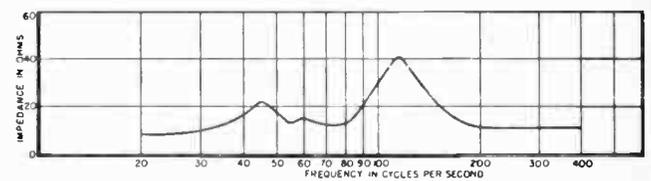
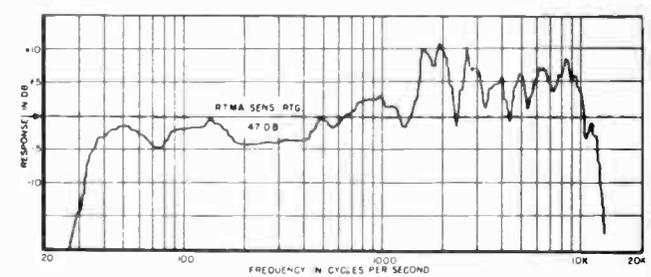

Fig. 1. Impedance characteristics.
Fig. 2. Frequency response.
Fig. 1. Response curves of the Stephens 103LX, 216, and 814H two-way system in the original "Fold-a-flex" for 15" speakers described in 1953. (A) Folded horn. Dotted trace is for corner mounted enclosure. (B) Infinite baffle. (C) Bass reflex. Humps at 150 and 300-400 cycles have equal response as a result of tuning reflex port.
The response curves, Figs. 1, 3, 4, show the effect of enclosure characteristics. The advantages of a tunable bass reflex port are clearly shown in the curves. The hump (at 150 cycles) results from cabinet resonance produced by an infinite baffle. Tuning the port results in a reduction of the hump and produces two equal humps of lower amplitude which is exactly the effect wanted. The difference can be easily distinguished
If the "Aristocrat" is carefully constructed, and care is taken to effect a complete seal of the front baffle board to prevent air leaks from front to back, rather startling bass performance will be realized. Response range will be as shown in the curve (Fig. 2) revealing a response within 5 db of flat to about 30 cps. This operation is supported by evidence disclosed in the impedance characteristic (Fig. 1) denoting a satisfactory reactive component in the voice-coil system well into the first octave. The high impedance at 120 cps is fortunately not reflected adversely in the frequency response curve.